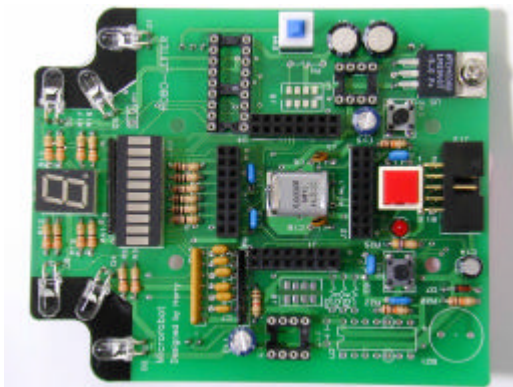

Fig 2.17
**(25)~(29), (31) Refer to Fig 2.17**